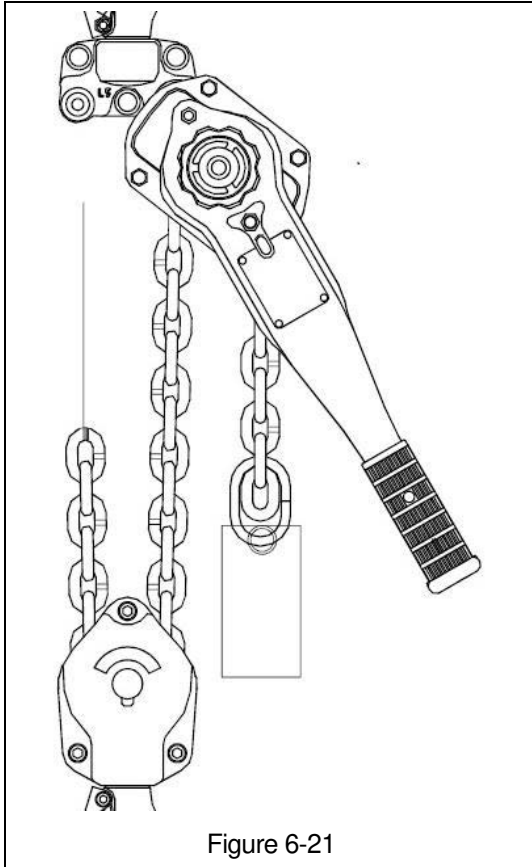

Figure 6-21
- 6.5.10.2 Feed the chain into the bottom hook block, making sure that the welds are facing the idle sheave. Refer to Figure 6-21.
- 6.5.11.2 Feed the chain into the bottom hook block, making sure that the welds are facing the idle sheave. Refer to Figure 6-21.